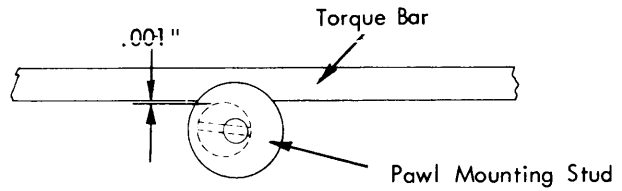

FIGURE 97. *Pawl Mounting Stud Adjustment*
3. Pawl Mounting Stud - Rotate the pawl mounting stud so that it clears the escapement torque bar by .001" at the closest point along the writing line (Fig. 97). Keep the high part of the eccentric toward the left so that the force of the torque bar will tend to tighten the stud instead of loosen it.